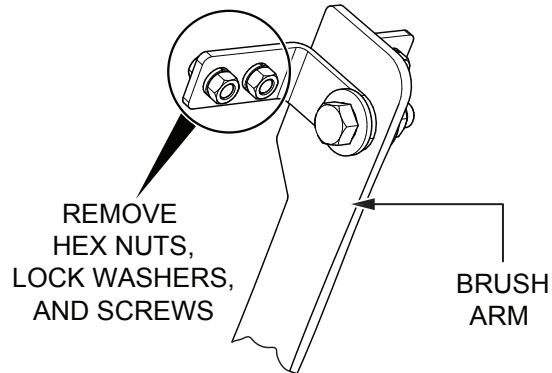

Figure 23. Brush Arm Hardware Removal
1. Using a 7/16" wrench, remove the two 1/4-20 × 3/4" screws, 1/4-20 hex nuts and 1/4" lock washers located at the top of each brush arm (Figure 23).